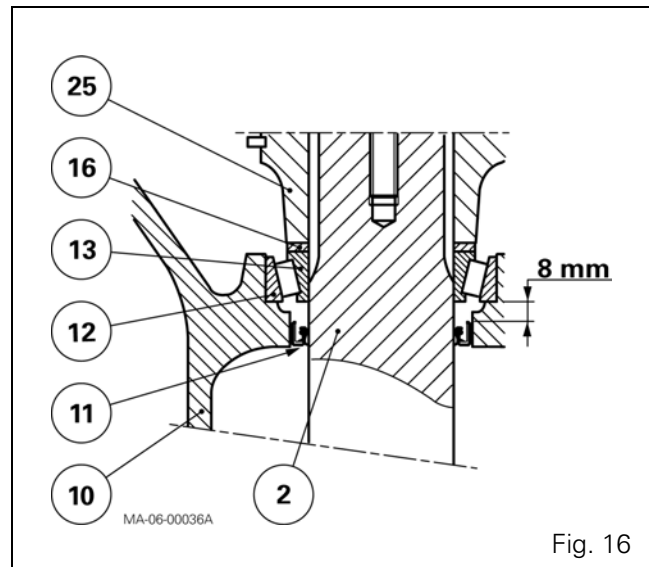
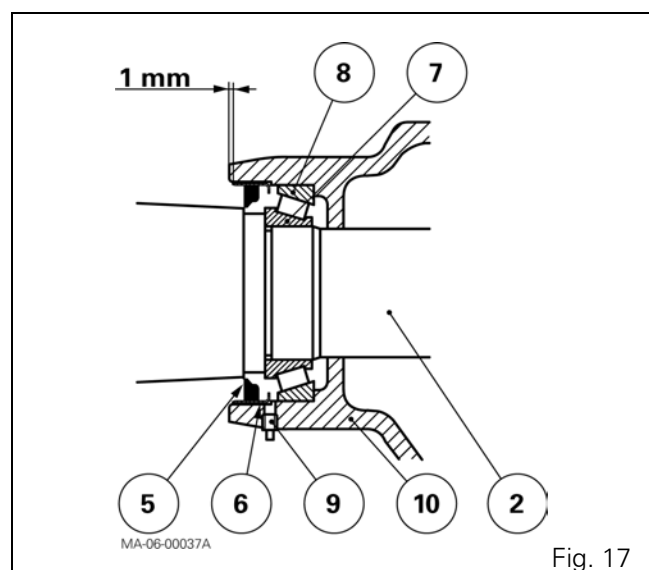

Fig. 16
Fig. 17
- **With replacement of the shaft (2):** Position the seal 8 mm from the shoulder of the cup (Fig. 16).
70. Lubricate the cups (8) (12) and fit them home against the shoulder.
71. Fit the cage (6) approximately 1 mm from the face of the trumpet housing (Fig. 17).
72. Fit the three-lipped seal (5) up against the shoulder of the shaft using a suitable fixture.
REMINDER: Follow the correct fitting direction of the seal (Fig. 17).
- 73.** Lubricate the shaft (2) and fit the cone (7) against the shoulder.
- 74.** Moderately grease the cone (7) and the lips of seals (5) (11) (using BP Agricharge grease or equivalent).
- 75.** Protect the lip of the seal (11) by temporarily masking the splines on the axle shaft with a fine, soft tape. Insert the prepared shaft into the trumpet housing.
- NOTE:** *The lips of the seal (5) must be fitted facing outwards.*
- 76.** Remove the shaft protection and lightly lubricate the cone (13).
- 77.** Slide the cone (13) and the tab washer (16) onto the shaft. Refit the planet carrier (see § C).
- 79.** Temporarily replace the plug (9) with a grease nipple.
Partially fill the trumpet housing cavity between the cone (7) and the seal (5) with BP Agricharge grease or equivalent. Take off the grease nipple and retighten the plug (Fig. 17).